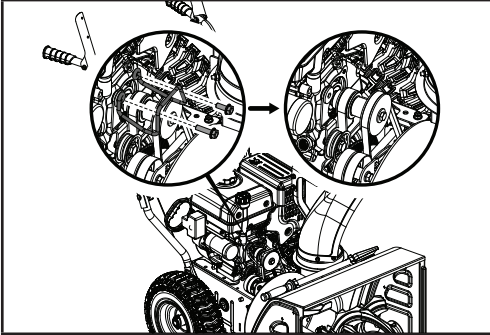

Figure 39
5. Remove the 2 bolts (20 mm/30 mm) holding the belt guard (Fig. 39). Note the spring is loose at this point.